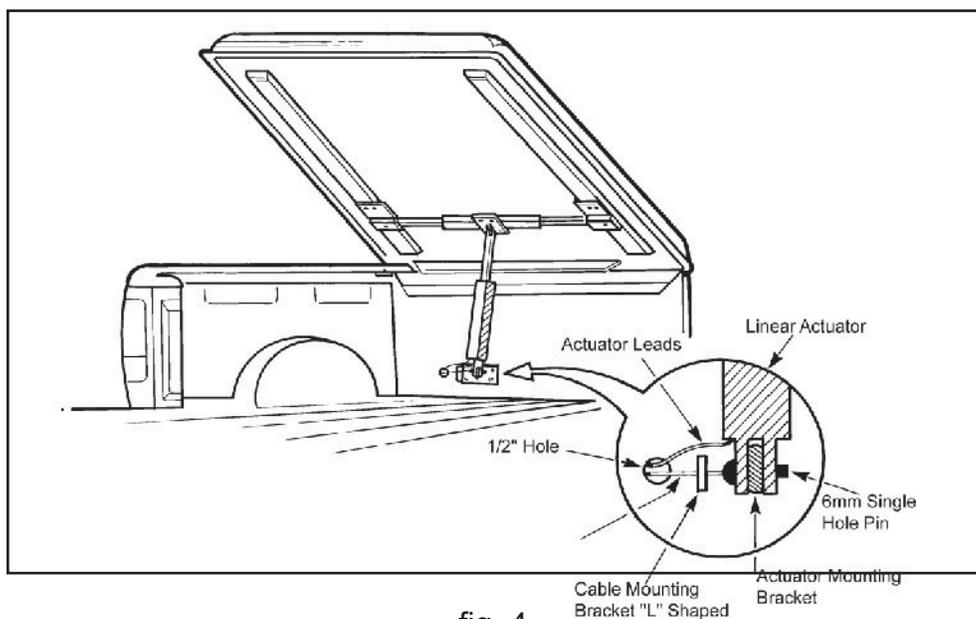

fig. 4
2. Make sure the tailgate is fully open, and disconnect the power leads from the tailgate actuator. **NOTE! THIS IS EXTREMELY IMPORTANT, DO NOT OPERATE THE TAILGATE WHILE INSTALLING THE TONNEAU SYSTEM.** Once you have disconnected the tailgate leads, temporarily connect the tonneau leads to the tonneau actuator and run out the piston to the end of its travel, then attach the piston to the lower bracket using one of the pins in the kit. **NOTE: IF YOU ARE INSTALLING AN EMERGENCY ENTRY KIT, DO NOT INSERT ANY LOCK CLIPS INTO THE PIN. THE EMERGENCY CABLE WILL HOLD THE PIN IN PLACE. IF YOU ARE NOT INSTALLING THE EMERGENCY KIT USE A 2 HOLE PIN. WE STRONGLY RECOMMEND THAT YOU INSTALL AN EMERGENCY ENTRY KIT WHEN INSTALLING OUR TONNEAU SYSTEM.** See fig. 4